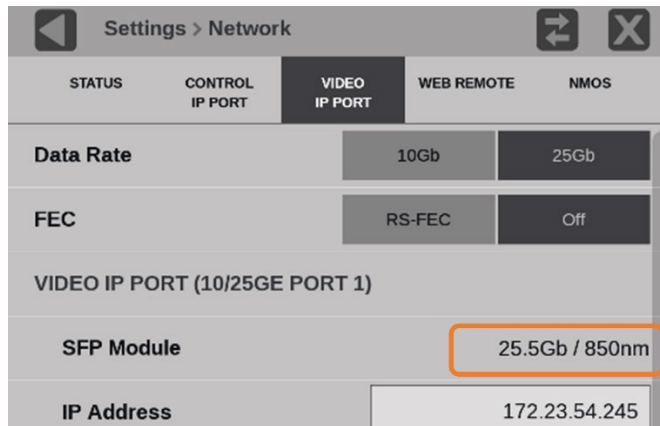

Figure 45: Readable MSA data from a 25Gb SFP module with data rate marked
- If the instrument can read the multi-source agreement (MSA) data from the installed SFP module, the data rate of the SFP module and the signal frequency is displayed in the SFP Module line (either 10Gb or 25Gb and 850nm or 1310nm). (See Figure 45.)